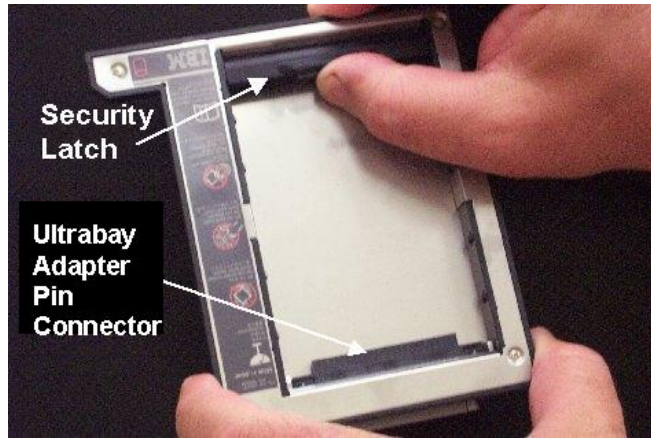

Figure 12-21.- A31p Ultrabay Adapter.
- a. Raise black security latch (refer to figure 12-21)